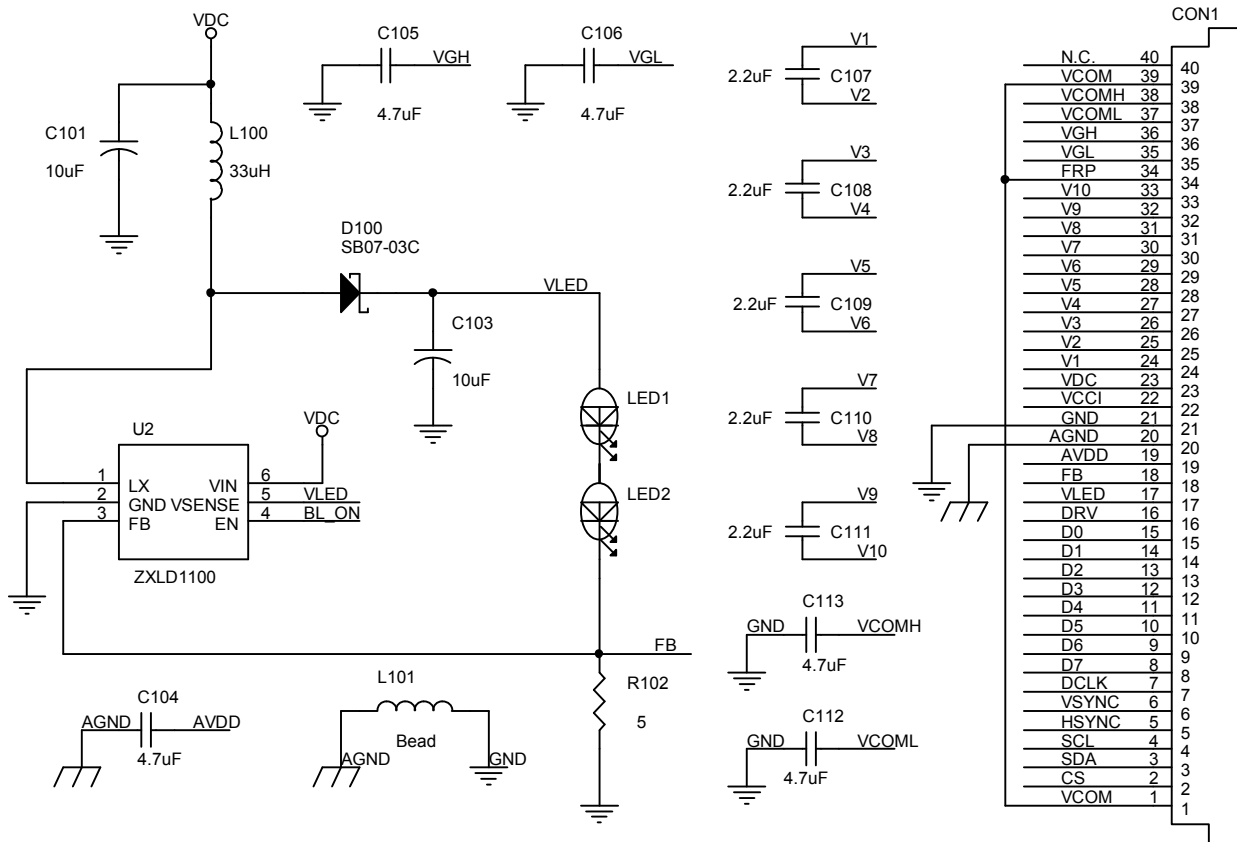

Fig.13 External LED driver Circuit
See Fig. 13 for the application circuit.
According to Fig. 13, the LED driver(ZXLD1100) and R102(5 ohm) with 0.1V feedback (FB) can provide a constant 20mA current for LED backlight unit. To control the back light on/off timing, user should create a control signal BL_ON (please refer to the ZXLD1100 data sheet). The LCD driver output DRV signal can also be used to drive BL_ON, in the condition of fine tune the R102 value to get the desired LED current value.
After V_{DC}/V_{CCI} power on reset, VSYNC/HSYNC/DCLK/DATA can be input, and serial control interface is also operational. The LCD driver is in default standby mode after V_{DC}/V_{CCI} power-on, and setting register #5 bit #0 to high (STB=1) to disable the standby mode is required for normal operation. When the standby mode is disabled, a build-in power on sequence is started. The driver IC analog power AVDD is turned on first, and then the LCD positive and negative power supplies VGH/VGL are pumped, and followed by the LED power VLED. So user need to control the BL_ON signal (see Fig.13) to be provided at this time. Please refer to Fig.14 for the detail timing of power on/off sequence.